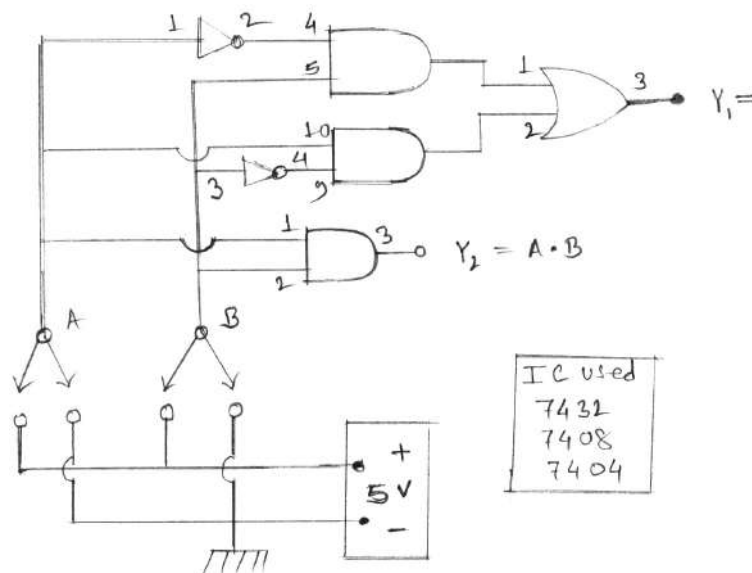

Fig. 7.4-2
The logic circuit implementing the Boolean expression (7.4-1) and (7.4-2) is shown in Fig. 7.4-2
● **Procedure :** (i) Construct the logic circuit of Fig. 7.4-2 on a bread board in operation (i) of problem (1).